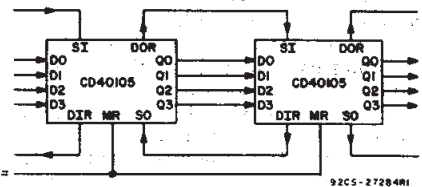

Fig. 3 - Expansion, 4-bits wide-by-16 N-bits long.
**Cascading** — The CD40105B can be cascaded to form longer registers simply by connecting the DIR to SO and DOR to SI. In the cascaded mode, a MASTER RESET pulse must be applied after the supply voltage is turned on. For words wider than 4 bits, the DIR and the DOR outputs must be gated together with AND gates. Their outputs drive the SI and SO inputs in parallel, if expanding is done in both directions (see Figs. 3 and 15).
**Master Reset** — A high on the MASTER RESET (MR) sets all the control logic marker bits to "0". DOR goes low and DIR goes high. The contents of the data register are not changed, only declared invalid, and will be superseded when the first word is loaded. The shift-in must be low during Master Reset.